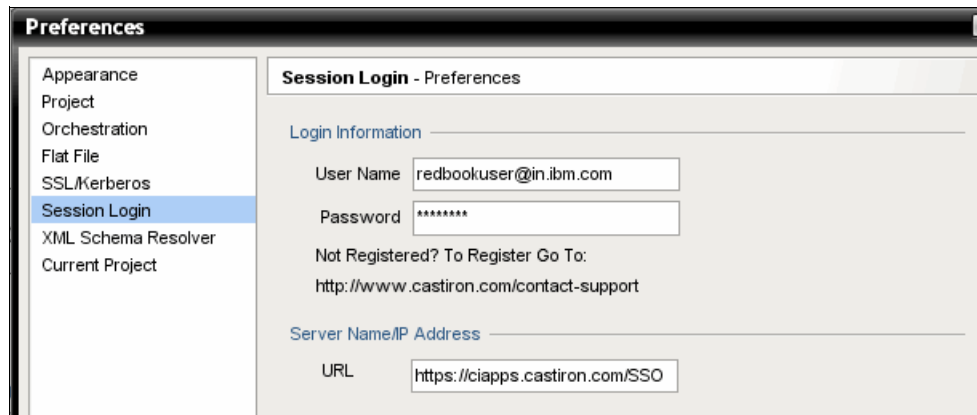

Figure 7-3 Session login details
3. Select **Session Login**, and enter your community user name, password, and the URL of the repository, as shown in Figure 7-3. Click **OK** at the bottom of the preferences window.